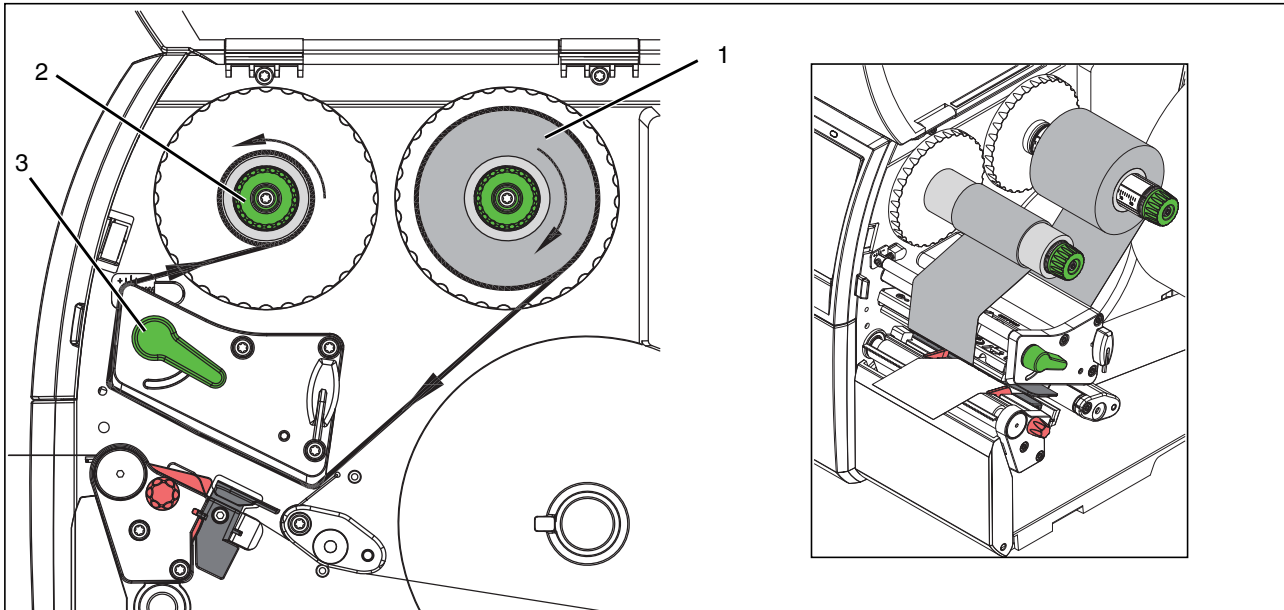

Figure 2-6 Feed path of the ink ribbon
The ink ribbon rolls for this printer from Phoenix Contact have the color coating on the outside of the winding. Observe the unwinding direction shown in Figure 2-6. **If the color coating is positioned incorrectly, the film will stick to the printhead.**
- Push the empty core of an ink ribbon roll onto the take-up hub (2) and fix it in place.
- Guide the ink ribbon through the printing unit as shown in Figure 2-6.